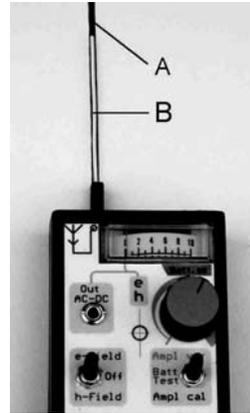

Fig. 8
To get maximum coupling to the guide wire, the e-field-antenna should be placed in centre and as near as possible above the guide wire groove (ref. Fig. 8). Adjust amplification that clearly a signal is recognized (LT1-display about 5). Due to different signal shielding of the guide wire a readjustment of amplification can be necessary. At the location of break the signal strength abrupt change to zero (ref. 3.5.2 Measurement principle). At this spot an electrostatic shield above the guide wire is possible in less cases and should be considered at least.